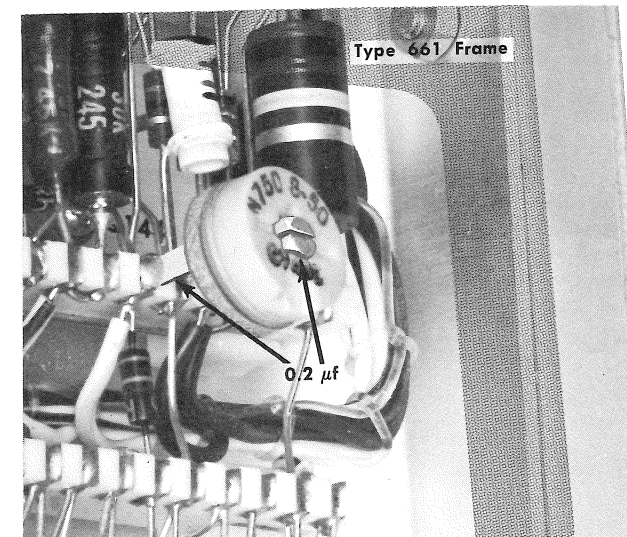

Fig. 5-9. Adding 0.2- $\mu$ f capacitor to C146B of Type 5T1A.
- c. Locate C146B at the upper rear of the Type 5T1A, as shown in Fig. 5-9. Place a 0.2- $\mu$ f (or 0.25- $\mu$ f) capacitor across the terminals of C146B as illustrated. (This increases the trigger circuit hold-off time so the free-run rate is about 18 msec between samples or about the same as a 50 cycle/second trigger.)